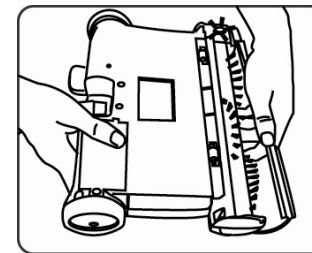

Fig. 14
4. Periodically remove the transparent brush cover on the front of the cordless sweeper and remove any build up of lint, hair or fiber on the rotating brush. To remove the cover - grip the cover from the bottom, pull out and upward until the cover unlocks from the side slots and tabs located on the top of the sweeper. Carefully cut away threads or hair with scissors. (Fig. 14)
1. Remove the brush cover. (Fig. 14)